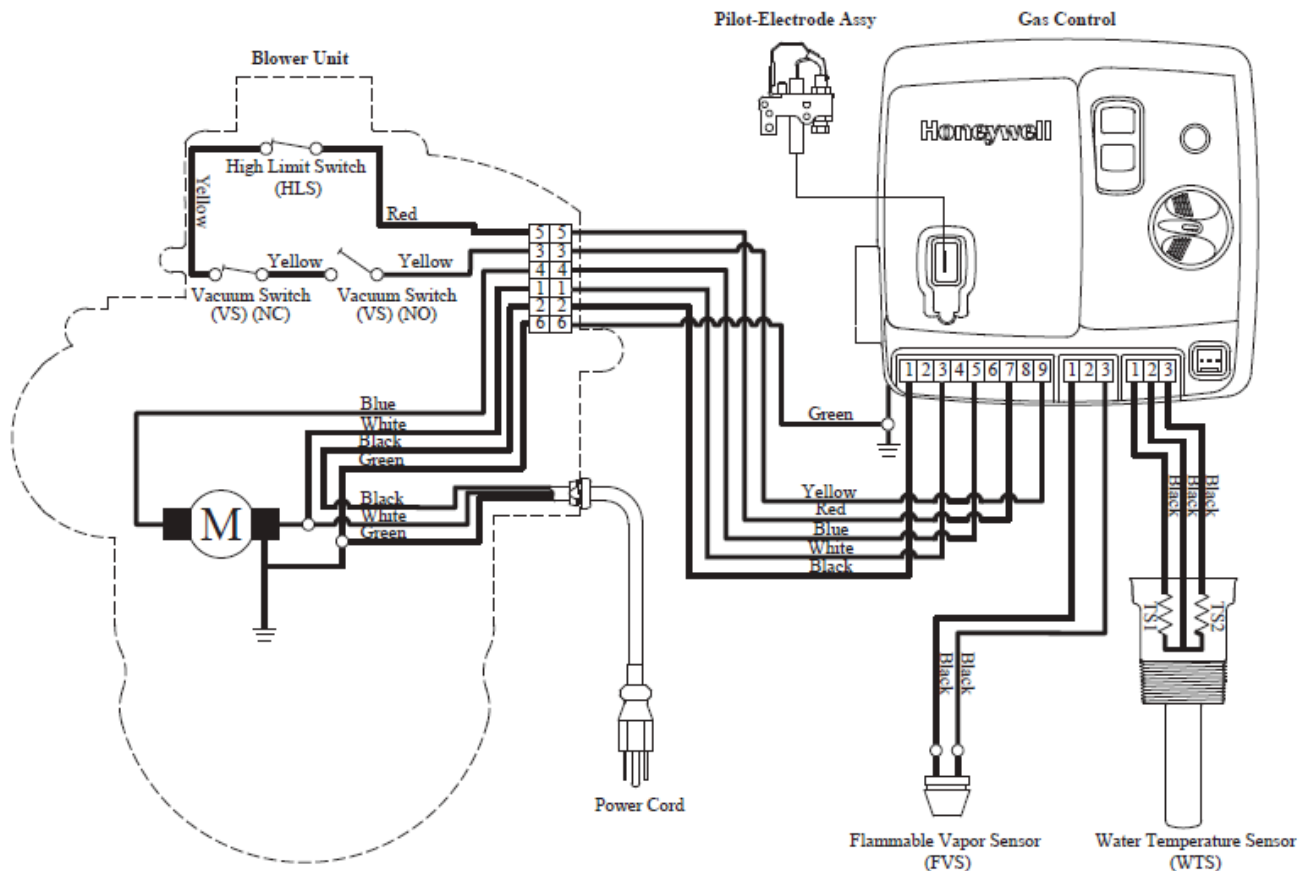

Figure 80. Honeywell connection diagram
On standing pilot water heaters, the TCO also protected the unit from restricted combustion air flow. Whereas on these electric units instead of the TCO a high vent temperature switch (HLS) is used, as shown in Figure 80 as a component on the blower unit.
- Figure 80. “Honeywell connection diagram (<https://giantinc.com/wp-content/uploads/docs/GI-AX004En-Supplement-PDV-Honeywell-Gas-Control.pdf>)” from Honeywell International Inc. is used for educational purposes under the basis of fair dealing.